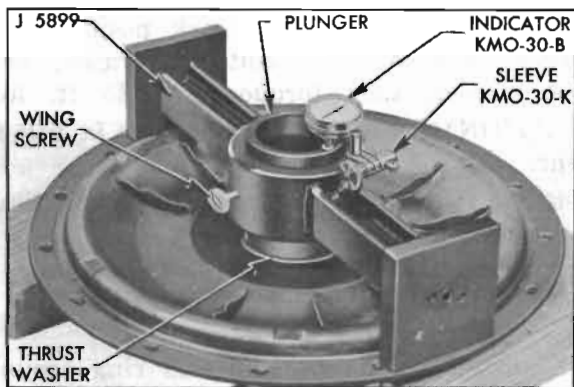

Figure 5-105—Gauge J 5899 on Pump Cover
6. Support the converter pump cover firmly on blocks with inner side up and place the bronze thrust washer in its recess. Remove Gauge J 5899 from pump, *invert it*, and center it on the cover so that it rests squarely on the gasket surface. See figure 5-105.
7. Use Sleeve KMO-30-K to mount Dial Indicator KMO-30-B on the adjustable post of clearance gauge so that indicator button bears squarely against the upper end of clearance gauge plunger. Set dial at zero. See figure 5-105.